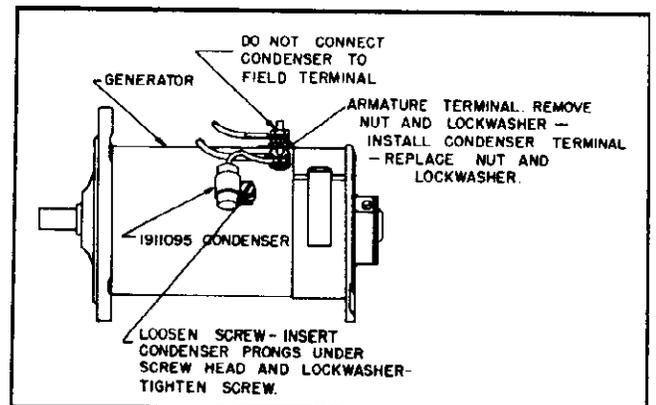

Figure 10
2. Mount generator condenser on generator. (See Figure 10.)